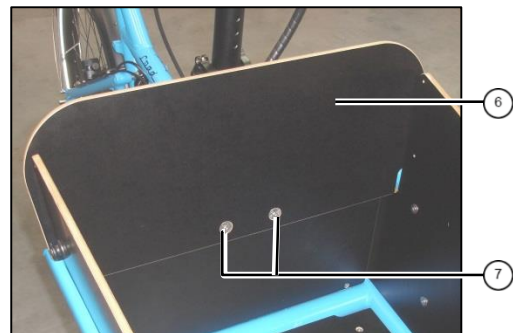

Fig. 3: Cargo back wall
5. Install Cargo back wall **6** with countersunk screws **7** (see fig. 3).